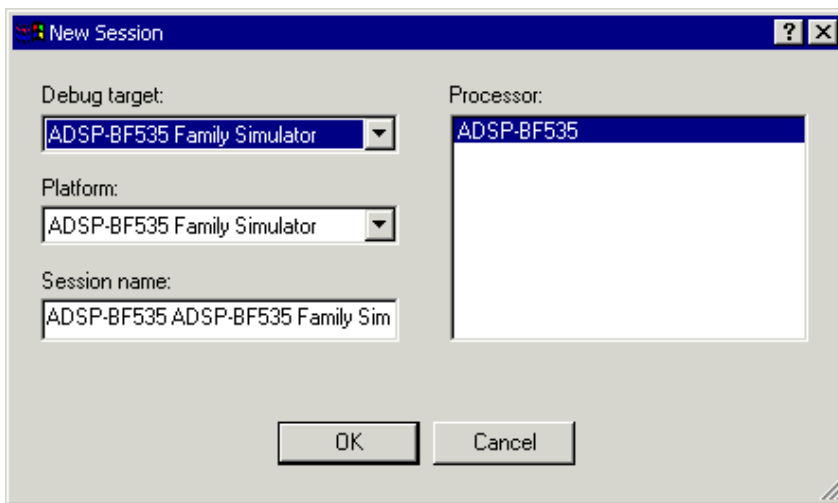

Figure 2-6. New Session Dialog Box
If you are running VisualDSP++ for the first time, the **New Session** dialog box (Figure 2-6 on page 2-11) opens to enable you to set up a session.
1. **In the Session List** dialog box, click **New Session** to open the **New Session** dialog box, shown in Figure 2-6.